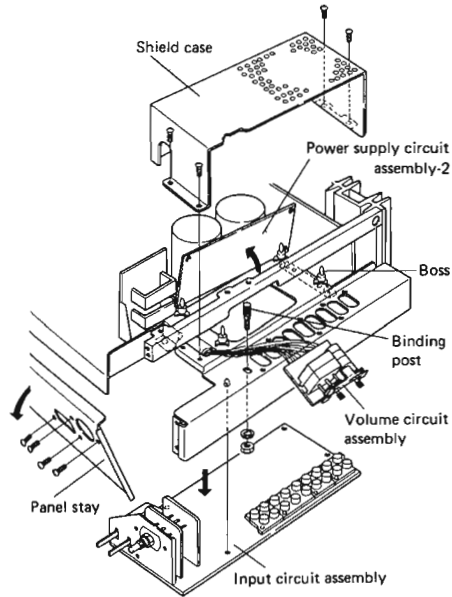

Fig. 14
**Removing the Input Circuit Assembly (Fig. 14)**